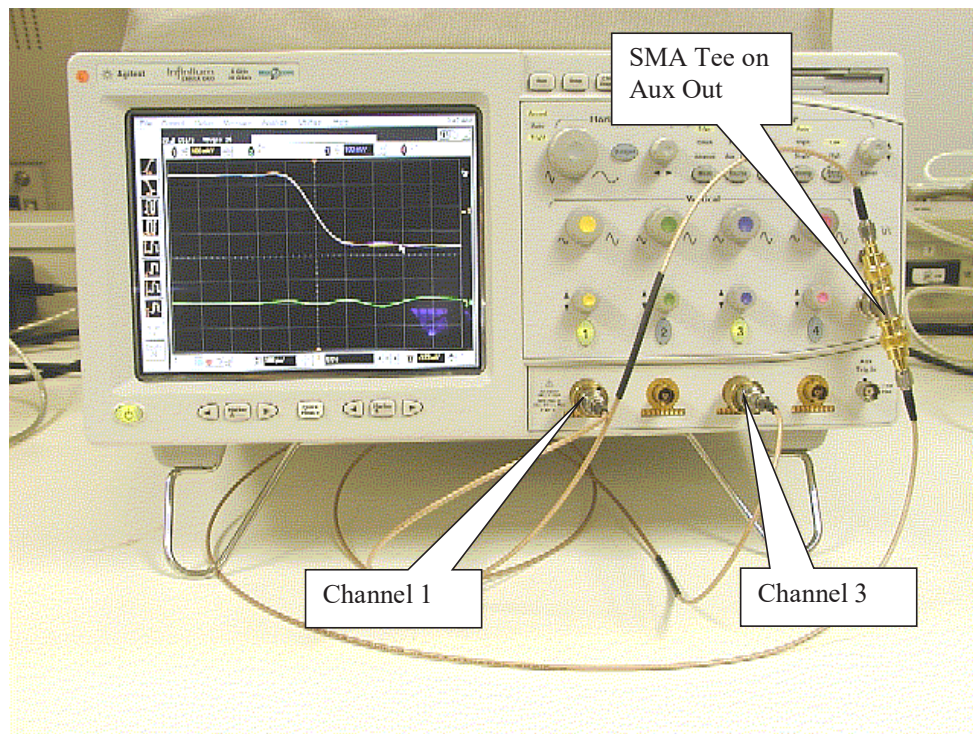

Figure 19 De-skew Connection.
- 1 Referring to Figure 19 below, perform the following steps: